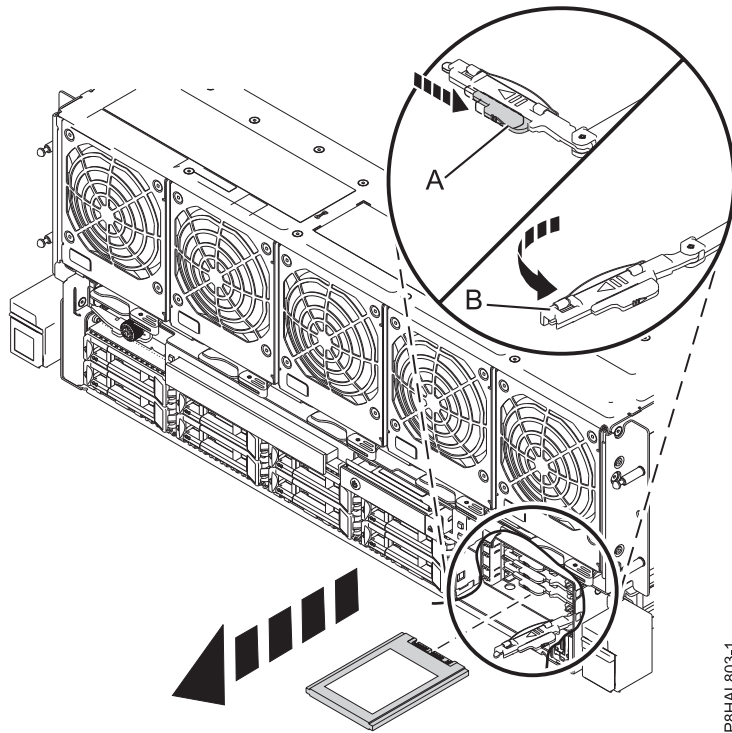

Figure 33. Removing an SSD from an 8408-44E or 8408-E8E system
9. When the identify LED turns on solid, unlock the drive bay handle (**B**) by pushing the handle latch (**A**) in the direction that is shown and pulling the drive bay handle (**B**) out toward you, as shown in Figure 33 on page 45. If the handle is not all the way out, the solid-state drive cannot slide out of the